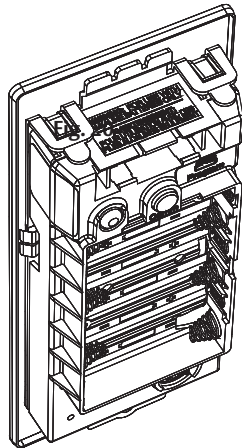

Fig. 29
- Ensure proper alignment of board-to-board connectors while pivoting controller toward door until two tabs on top snap securely into place on mounting plate. (Figure 29)